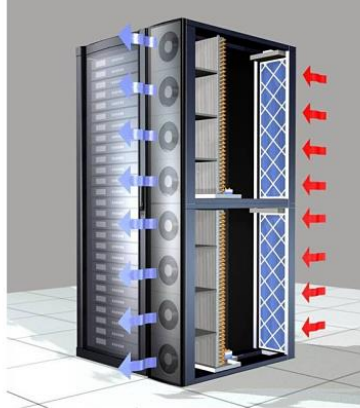

Figure 2. Example of HPC row cooling system
- Design new HVAC system to handle the HPC heat load, including support infrastructure and rack cooling system, such as row cooling (Figure 2);
- Proposed HVAC system must accommodate future expansions up to three (3) HPC as noted above.